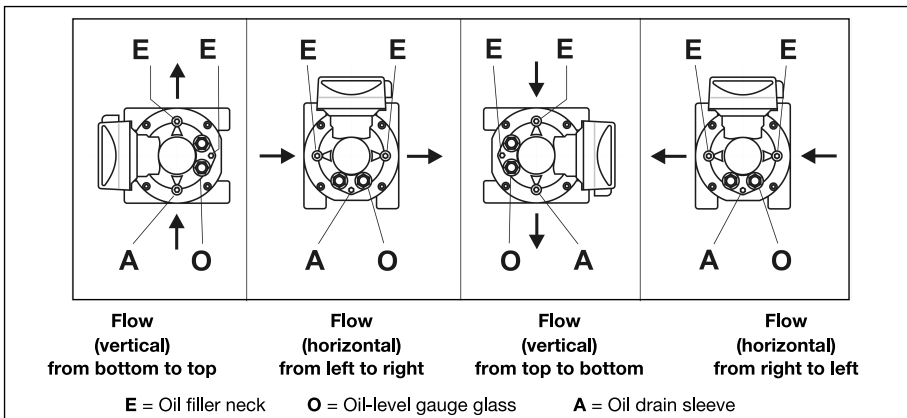

Figure 7: Permitted operating positions, oil filling and oil-level display for **Type RVG**
- There are three openings available for filling or draining oil, and two oil-level gauge glasses on the front and (optionally) on the rear of the meter (Figure 7).
- Unscrew and remove the oil filler plug (E, Figure 7) from the front housing cover.
- Remove one oil filler plug (E) from the rear housing cover, so that the oil can flow more easily into the rear oil chamber.